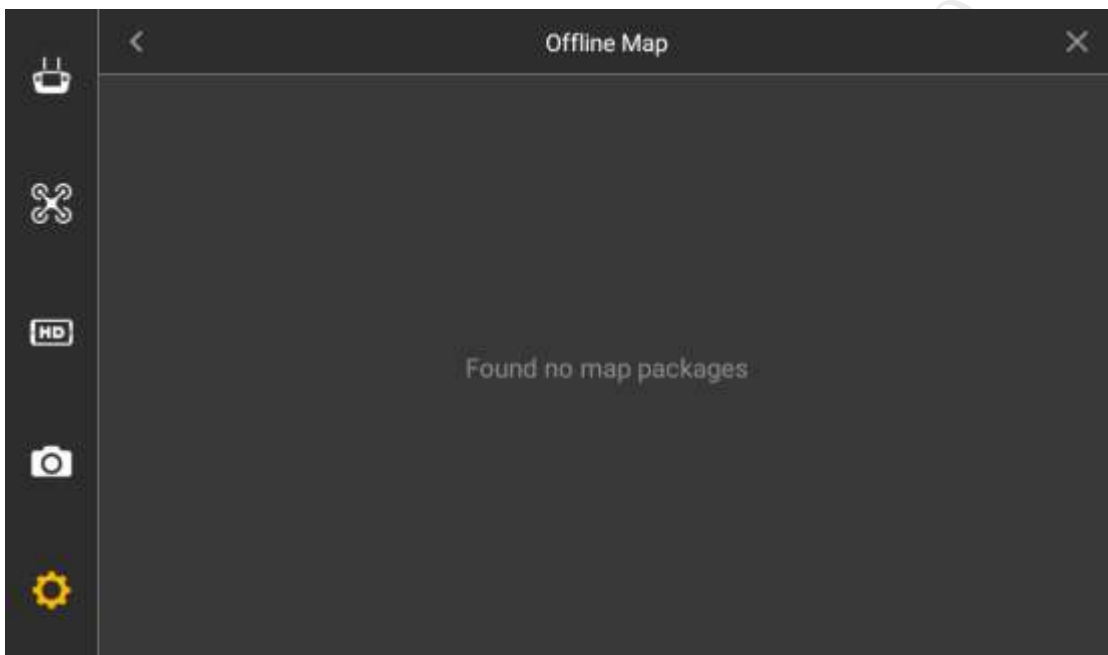

Figure 6-3
Step 1 Select "Settings > General Settings > Other Settings > Offline Map". The system will display the interface of "Offline Map", as shown in Figure 6-3.